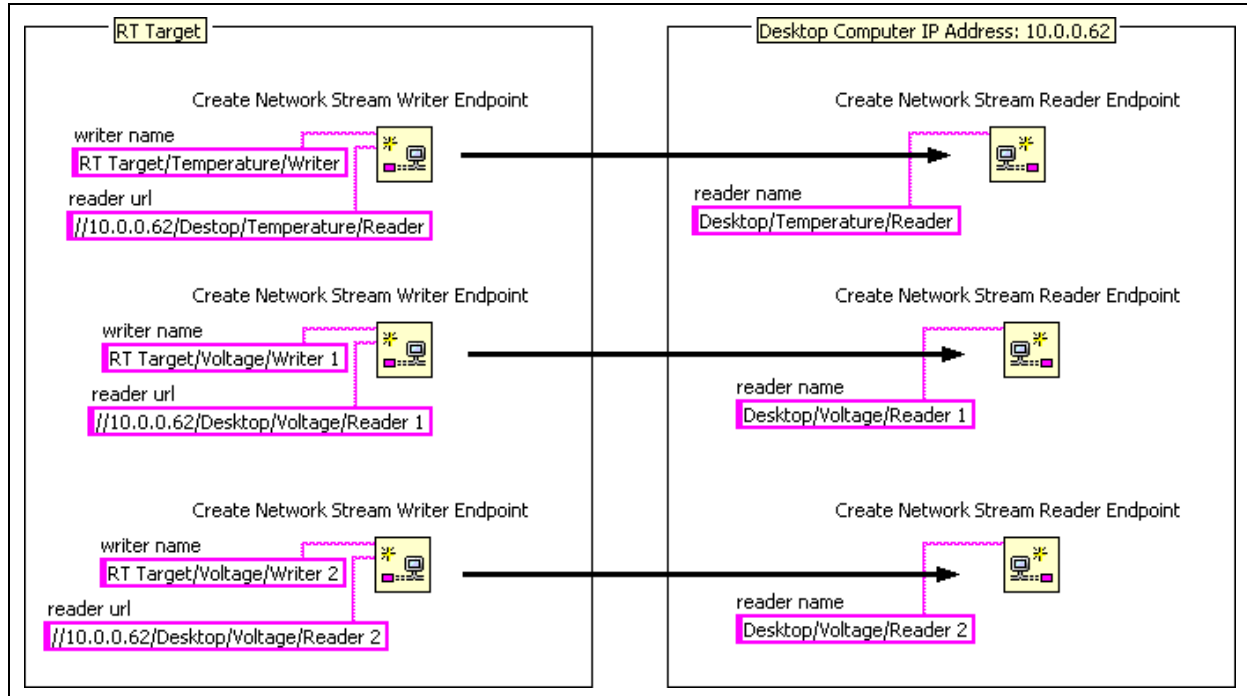

Figure 5-3. Organizing Network Stream Endpoint Names
For example, assume you have three writer endpoints within the same application on a real-time (RT) target. One measures temperature, and the other two measure voltage signals. These endpoints connect to three corresponding reader endpoints in an application on a desktop computer. Figure 5-3 shows examples of names that you could assign to each endpoint. The arrows indicate the reader endpoint to which each writer endpoint connects.
In Figure 5-3, the name of each endpoint describes the target the endpoint resides on, the type of data the endpoint streams, and whether the endpoint reads or writes that data. This naming scheme shows which endpoints correspond with each other.